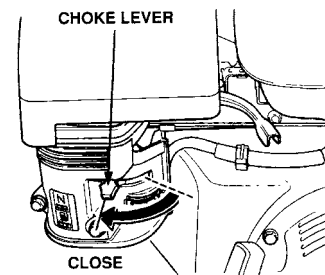

Figure 11. Engine Choke Lever (Closed)
4. Place the choke lever (Figure 11) in the **CLOSED** position if starting a cold engine.